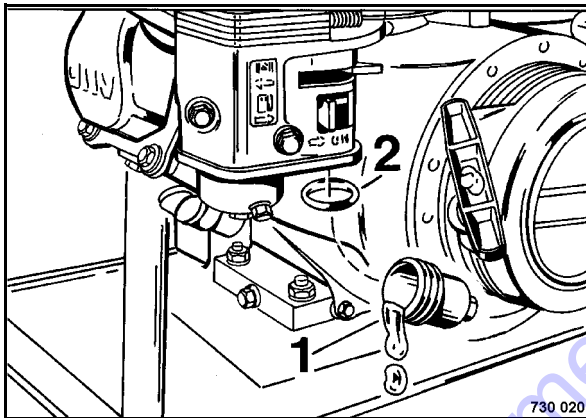

Fig. 55
- With the fuel tap closed unscrew the fuel sludge filter (1) (Fig. 55) and wash out in fuel.
- Check the O-ring (2) for damage, replace if necessary.